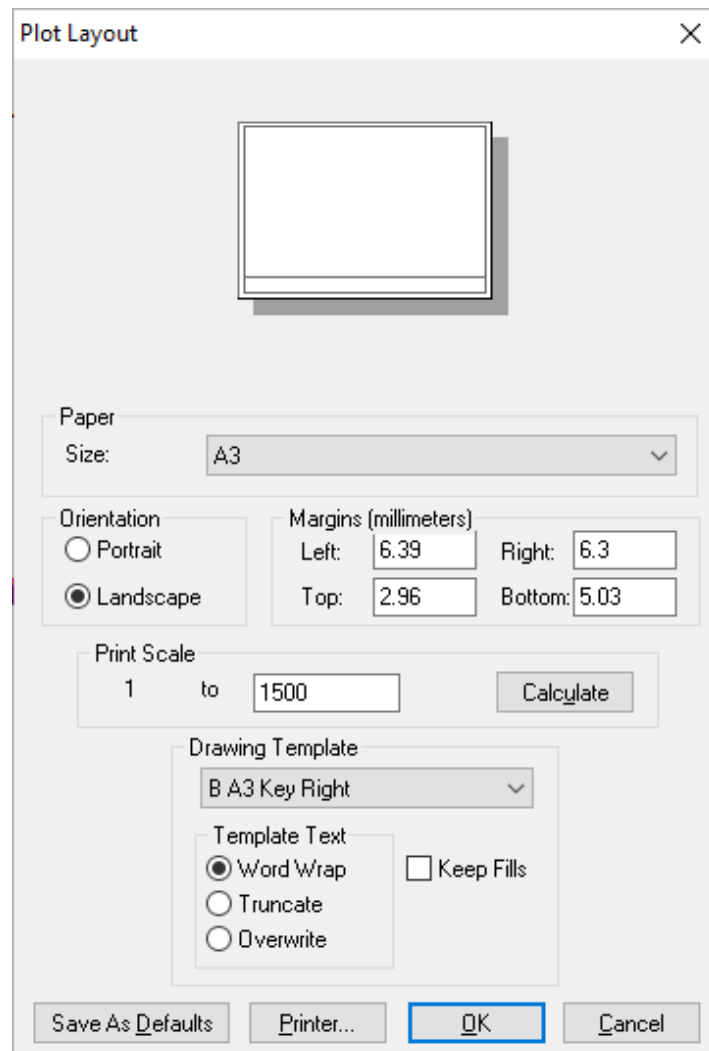

Figure 4-92
7. Select a **"Drawing Template"** from the dropdown list. Selected the **"B A3"** templates for the B (A3) paper size. For A (A4) size paper select the **"A A4"** templates and for C (A2) size paper select the **"C A2"** templates. In general, you should always select a template to match the selected paper size. For this tutorial select the **B A3 Key Bottom** template. Your dialog should look like Figure 4-92.